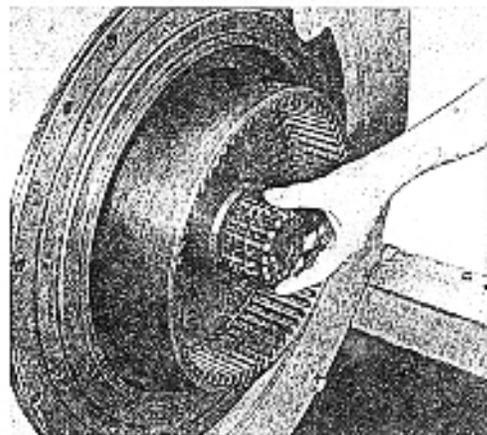

Figure 7. Installing Snap Ring in Groove on Drive Flange Shaft.
13. Locate clutch driving drum on drive flange shaft and install snap ring in groove on drive flange shaft to secure drum see fig. 7.